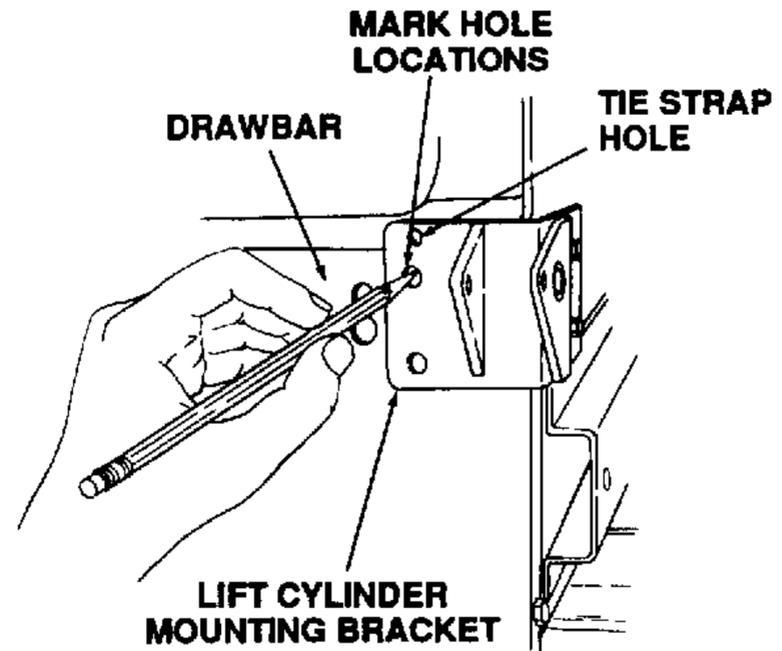

Figure 7-47. Marking Location For Holes.
- b. Using the two holes in the rear of the cylinder mtg. bracket (1) as a template, mark the hole locations on the tractor drawbar. See Figure 7-47.